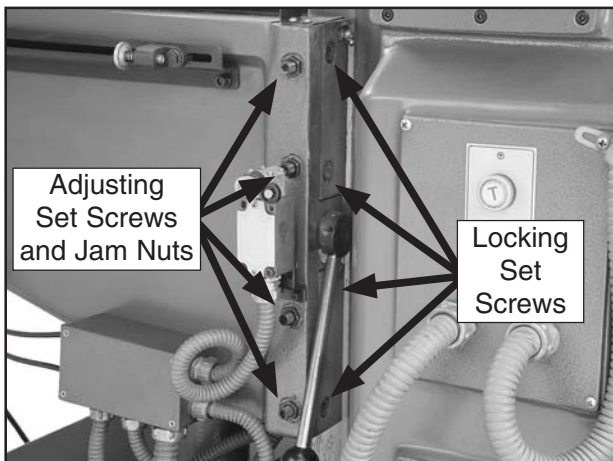

Figure 86. Model G0615 column gib set screws (shown from right side of knee way).
1. Locate the four locking and four adjusting set screws for the two column gibs on the right side of the knee (see **Figure 86**).